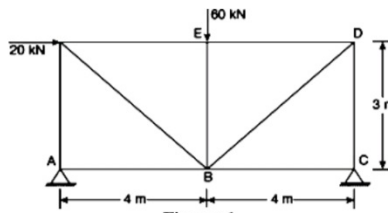

Figure: 1
1. Find the force in all members of the truss shown in figure 1 by method of sections. [15]